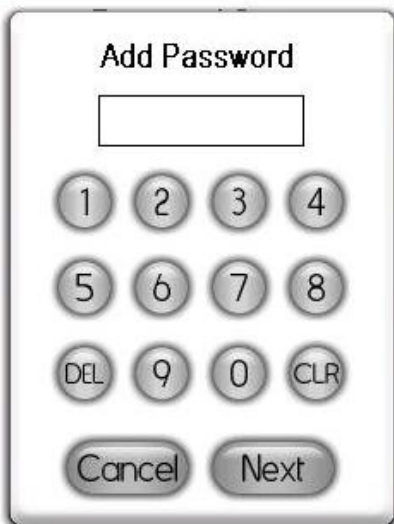

Figure 70. Password entries can contain between 4 and 8 digits.
To add a new password entry, select the *Add Password* option from the *Password Setup* menu. At the password entry screen shown in Figure 70, enter at least four (4) and up to eight (8) digits to define a new entry. Assuming the entry is unique, clicking the *Next* button advances to the *Set Menu Access Level* configuration popup as shown in Figure 72. If the entry is invalid or not unique, the warning buzzer will sound and the password entry screen will reset to accept a new entry.